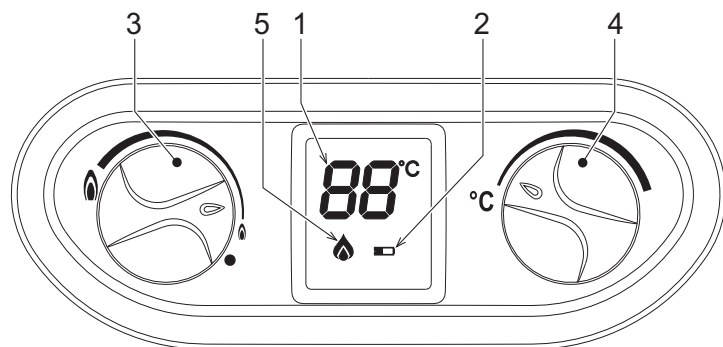

fig. 1 - Control panel
Panel legend fig. 1
Use the power adjustment knob (ref. 3 - fig. 1) to select the water heater power, minimum or maximum and intermediate positions depending on the required water heating level. Turn the knob anticlockwise and the unit heats the water at maximum power. If the temperature is too high, for example in the summer, or when a reduced flow of not very hot water is necessary, turn the knob clockwise. This reduces the power (and gas consumption). In the position ● the unit is deactivated.